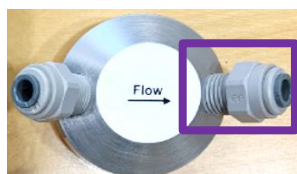

Figure 1. Pump head, connection to rotameter indicated (purple box)
1. Add BC, FC, WBC or combination to the PU outflow (Figure 1)